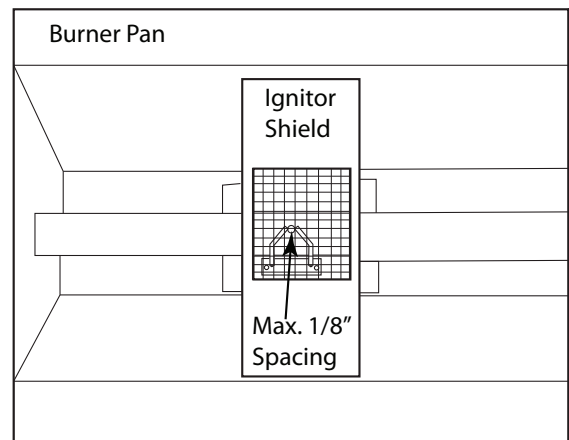

Fig. 8 Proper ignitor probe location.
Unscrew (counter-clockwise) the Piezo ignitor module red button cap and the plastic mounting nut. Slide the module on the back side of the module cover plate and secure with the plastic mounting nut. Insert the positive end of (1) AAA battery into the ignitor module and carefully screw the red button cap to the ignitor module until snug. Careful not to overtighten the cap. Attach the extension wires (PIEZO23WH/25WH) to the 2-probe spark ignitor. Careful not to overtighten the cap. Test the ignitor by pushing and holding the red button to ensure the ignitor probes inside the Linear Outdoor Fire are sparking. The spark should be located directly overtop of the burner port hole for proper ignition of the gas (See fig.8). Spacing between the probes should be approximately 1/8-inch for proper spark.
For proper ignition it is important that the ignitor probes be properly aligned overtop of the burner port holes. Use the Fig.8 as a guide. Before lighting remove the screen cover of the ignition hood to burner and ensure the spark probes are directly overtop of a burner port hole. The sparking probes must be in the path of a flame to ignite the gas for proper ignition of the flame. Replace the screen cover and follow the operating instructions.
Install lava rock/media into the burner pan. Ensure the media is a minimum of 1-inch diameter for proper operation. **Note:** Do not pour Lava Rock directly from bag. Media should be placed naturally and NOT packed in tight. Loose fitting is important to ensure robust flames. Be sure rocks are free of any excessive dust. This prevents the burner pan weep holes from being plugged and holding water. **IMPORTANT:** Do not place media over top or under the screen cover. The screen must be free of any debris to ensure proper lighting of burner and good flame rectification (See fig. 8).
4. Gas should ignite within 10 seconds or less. If Linear Outdoor Fire does not light within 10 seconds turn key clockwise to turn OFF the gas supply. Check ignitor probe location (Fig. 8), ensure there is an 1/8" gap between the probes with a good strong spark then repeat steps 2 through 4.
1. Ensure ignitor is aligned properly overtop of burner port hole. See page 7, figure 8.